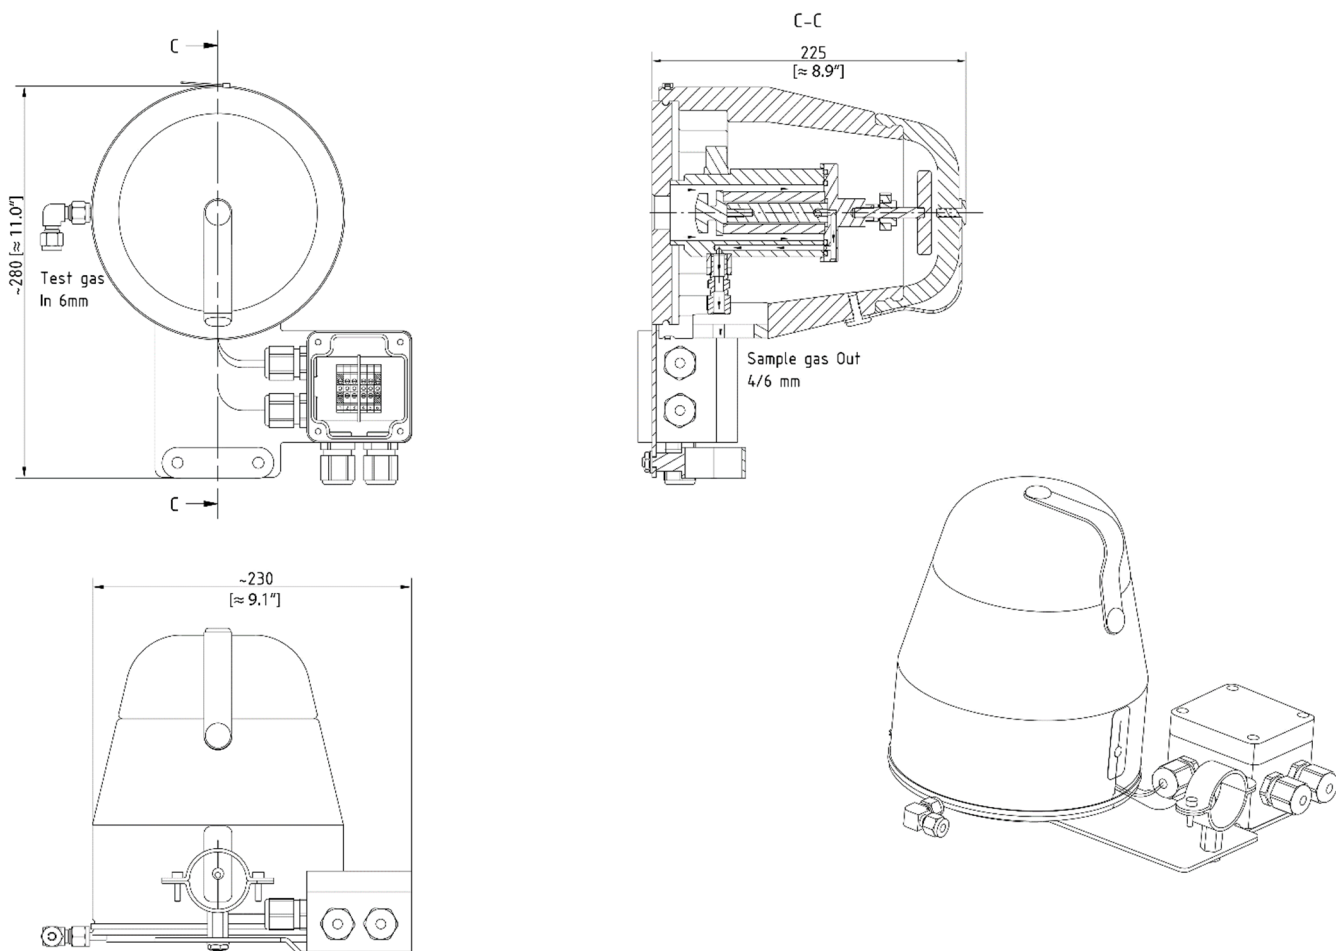

Figure 1 Dimensions and construction of the SP180-H-EX1 T*
- To connect the test gas line, a threaded tube connector with Ø 6 x 1 mm (DN4/6) is available (see Figure 1)
- The temperature-resistant, stainless steel connector ④ from M&C has a double-blade ring system to ensure reliable sealing. First finger-tight the nuts of these connectors, then use a flat spanner to turn the nuts exactly 1¼-turns. The nuts are now correctly mounted.